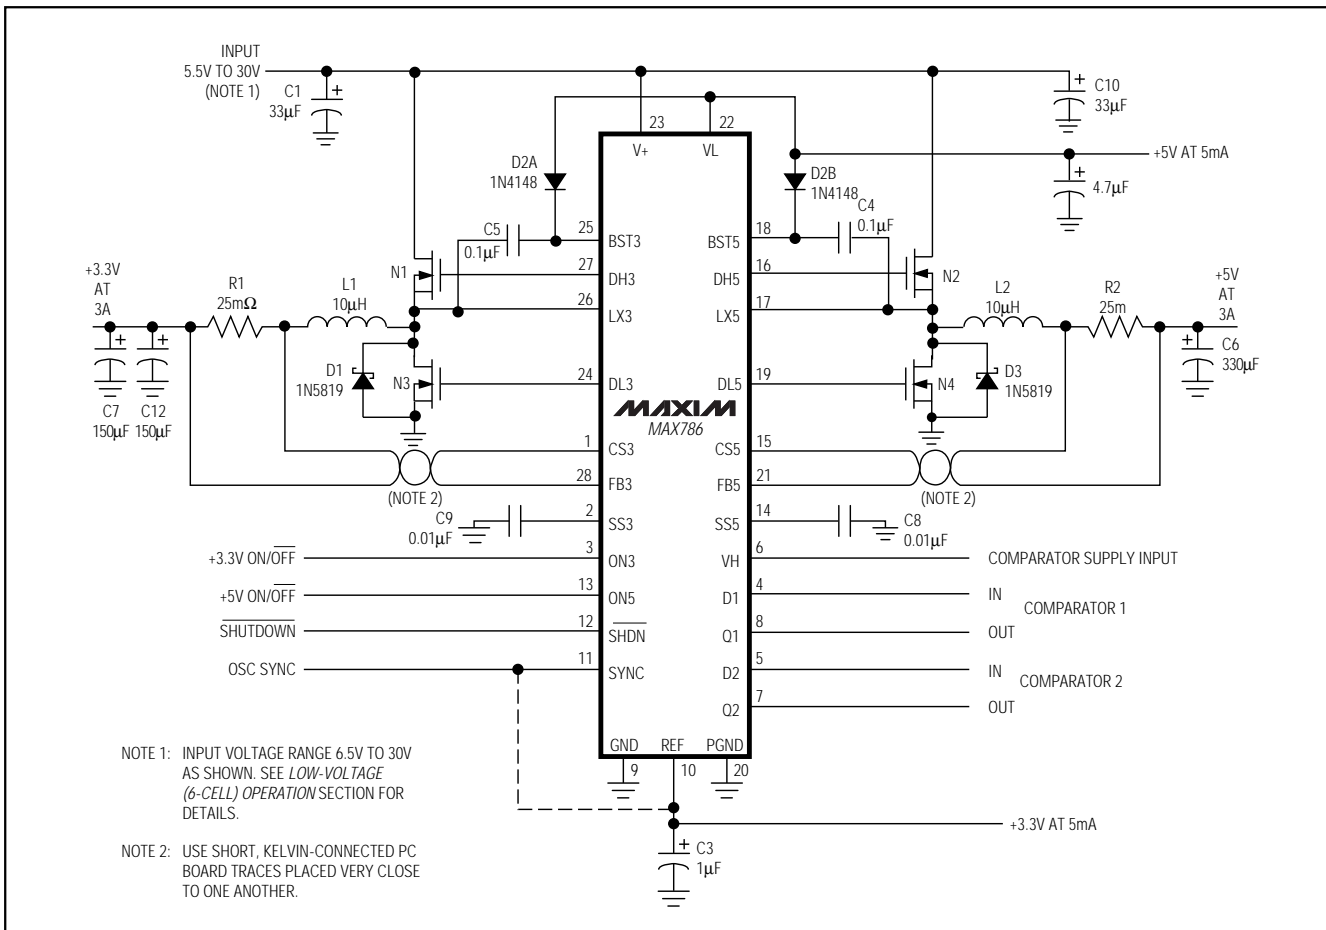
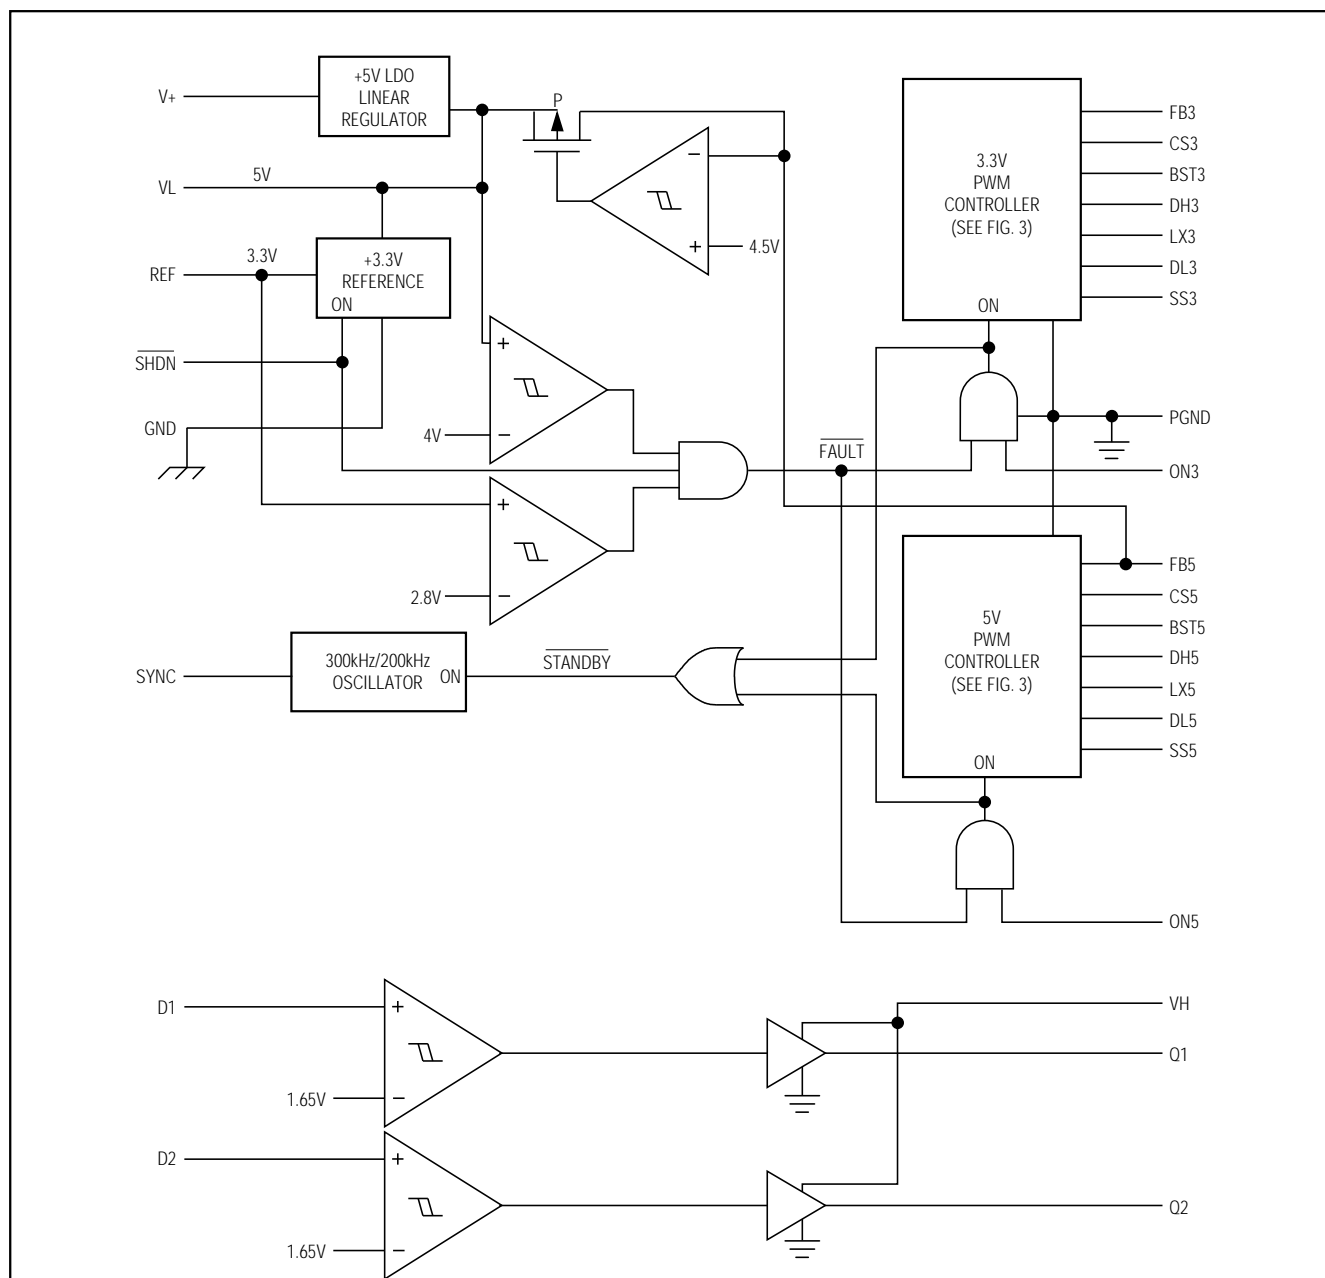

Figure 1. MAX786 Application Circuit
Figure 2. MAX786 Block Diagram
(Circuit of Figure 1,  $T_A = +25^\circ\text{C}$ , unless otherwise noted.)
The MAX786 converts a 5.5V to 30V input to four outputs (Figure 1). It produces two high-power, PWM, switch-mode supplies, one at +5V and the other at +3.3V. The two supplies operate at either 300kHz or 200kHz, allowing for small external components. Output current capability depends on external components, and can exceed 6A on each supply. An internal 5V, 5mA supply (VL) and a 3.3V, 5mA reference voltage are also generated via linear regulators, as shown in Figure 2. Fault protection circuitry shuts off the PWMs when the internal supplies lose regulation.
The +3.3V supply is generated by a current-mode, PWM step-down regulator using two N-channel MOSFETs, a rectifier, and an LC output filter (Figure 1). The gate-drive signal to the high-side MOSFET, which must exceed the battery voltage, is provided by a boost circuit that uses a 100nF capacitor connected to BST3.
The +5V output is produced by a current-mode, PWM step-down regulator, which is nearly identical to the +3.3V supply. The +5V supply's dropout voltage, as configured in Figure 1, is typically 400mV at 2A. As  $V_+$  approaches 5V, the +5V output gracefully falls with  $V_+$  until the VL regulator output hits its undervoltage-lockout threshold at 4V. At this point, the +5V supply turns off.
(See Figure 1 for Standard Application Circuit.)
Figure 1's schematic and Table 2's component list show values suitable for a 3A, +5V supply and a 3A, +3.3V supply. This circuit operates with input voltages from 6.5V to 30V, and maintains high efficiency with output currents between 5mA and 3A (see the *Typical Operating Characteristics*). This circuit's components may be changed if the design guidelines described in this section are used—but before beginning the design, the following information should be firmly established: